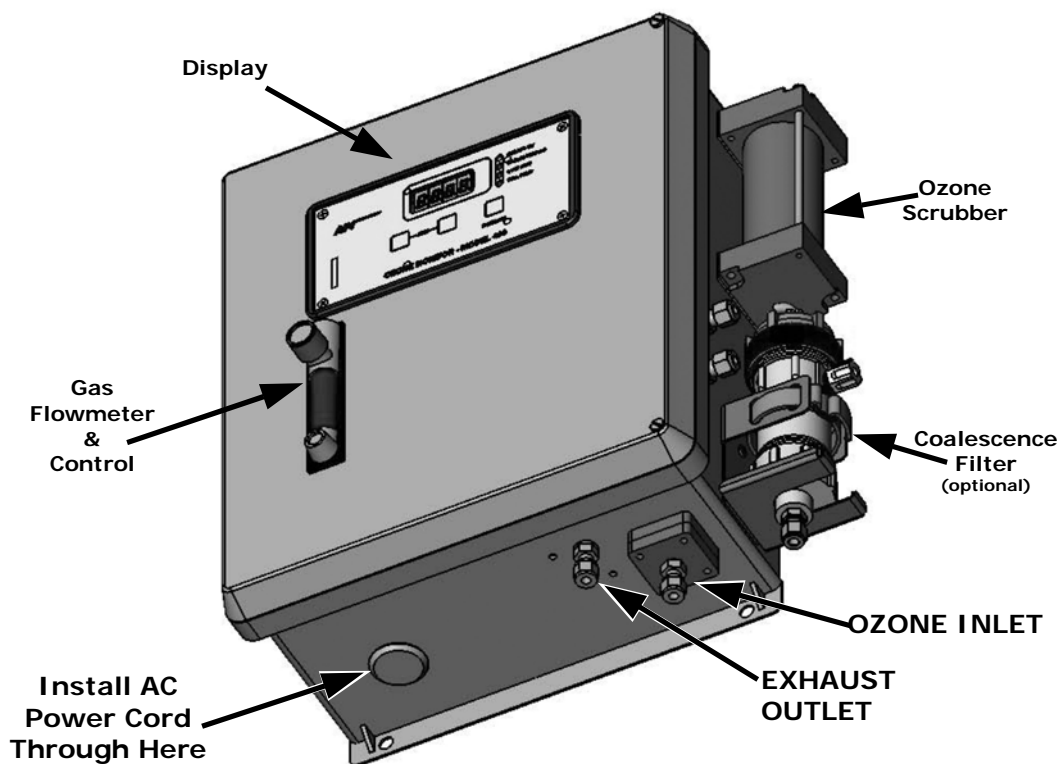

Figure 3-4 460M Pneumatic Connections
2. Connect the ozone delivery line to the ¼" inlet fitting labeled "Ozone Inlet" on the bottom face of the enclosure (See Figure 3-4.)
1. Install a ½" conduit fitting for routing the electrical wiring into the monitor through the hole provided (see Figure 3-4). In order to maintain the IP (NEMA4X) rating of the enclosure, an appropriate sealed conduit connector should be used.